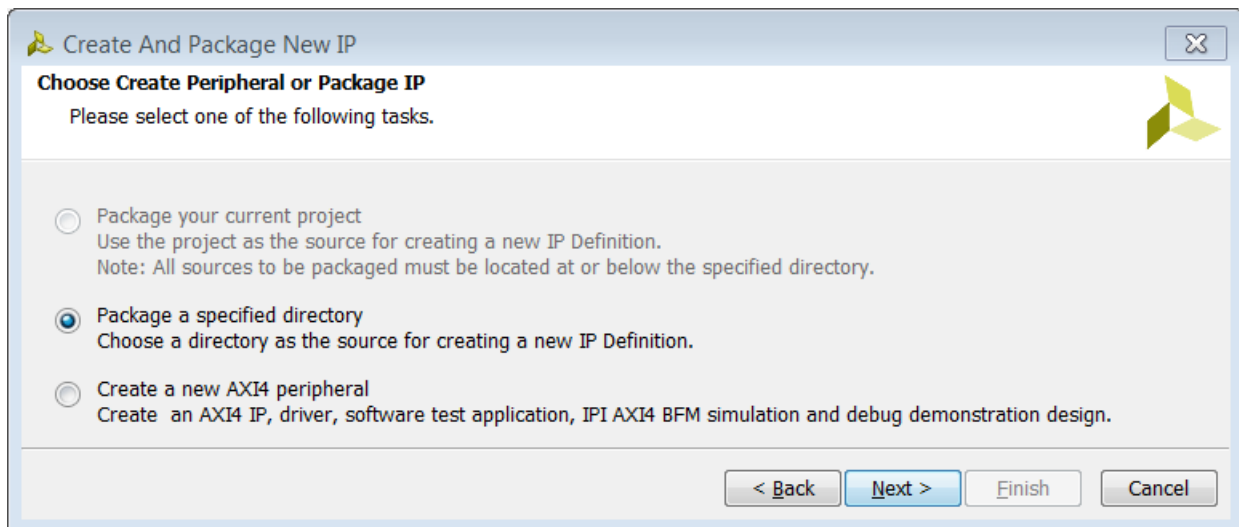

Figure 147: Setting the IP Source Location
The Choose Create Peripheral or Package IP window opens (FIGURE 147).
5. In the Package Your Current Project page, in the IP Definition Location, click the **Browse** button  and browse to <Extract_Dir>/lab_5/ axi_gpio_v1_01_b, as shown in FIGURE 147.